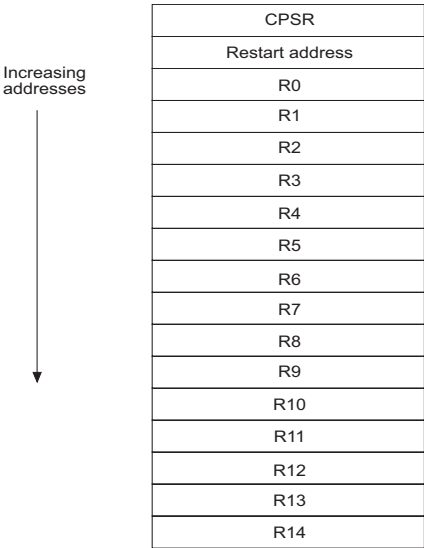

Figure 9-1 PCB layout
- Each User mode process has an associated *Process Control Block (PCB)*, which stores its register values while it is not running. The format of a PCB is shown in Figure 9-1.